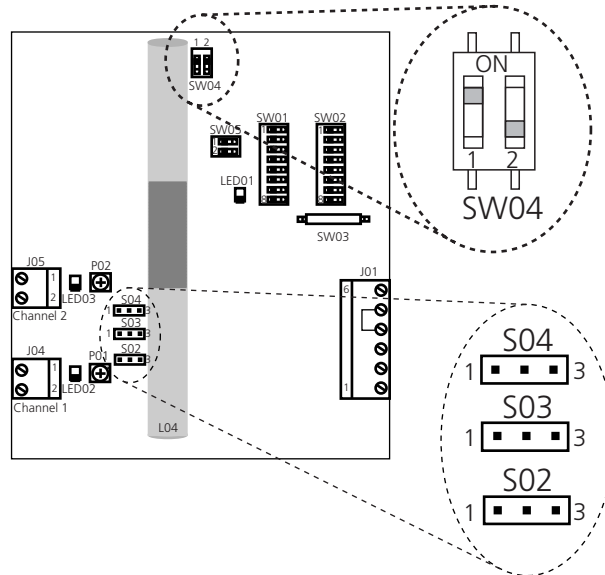

Figure 15. Switch SW04, and jumpers S02 to S04 on L951LP.
- 1 To use internal antenna L04, place a jumper on pin 1 and 2 on S02. See figure 15 above.